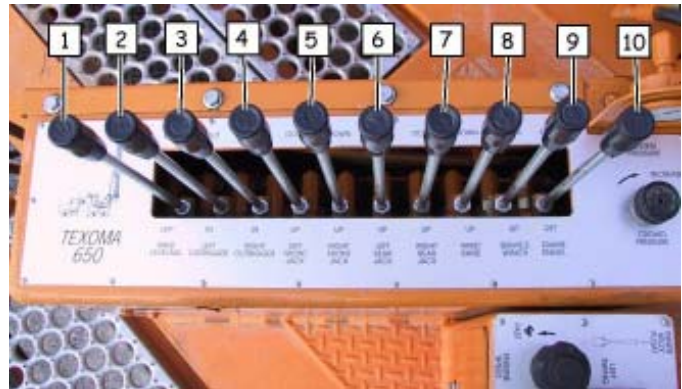

Fig. 4-2 Main Valve Bank
2. Pull MAST RAISE LEVER (item 8, fig. 4-2) to raise mast.
3. Push SERVICE WINCH LEVER (item 9, fig. 4-2) to spool off cable as mast raises.